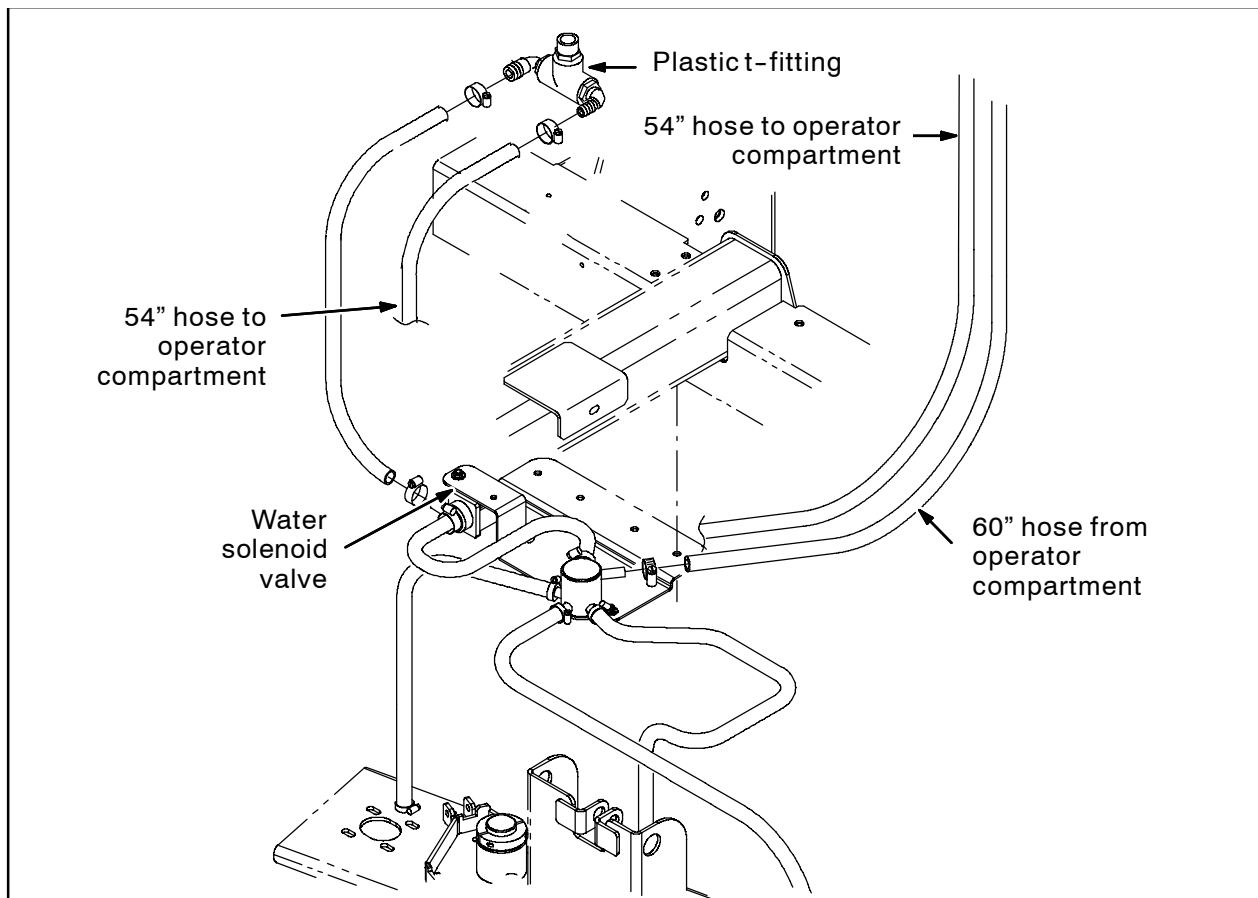

FIG. 10 - Machines Without Optional Side Brush
20. **Machines Without Side Brush Option Only:** Use a hose clamp to connect the 60" PVC hose to the scrub head. Refer to fig. 10.